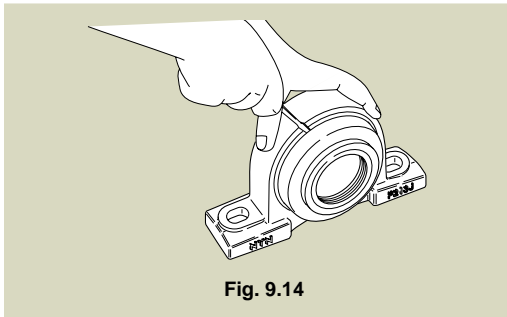

Fig. 9.14
- 1) Remove the cover from the bearing unit. The steel cover can also be removed easily by hand, but should there be any difficulty due to an over-tight fit, insert a screwdriver or similar tool in a twisting motion, as shown in Fig. 9.14.